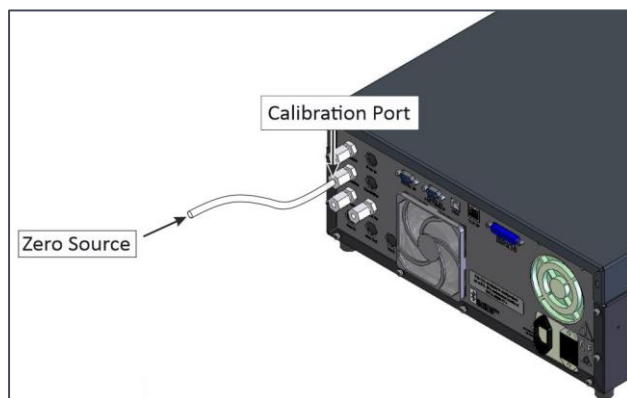

Figure 116 – Zero Calibration Set-up - 1
1. Refer to Figure 116. Ensure a suitable zero air source is connected to the **Calibration port**.